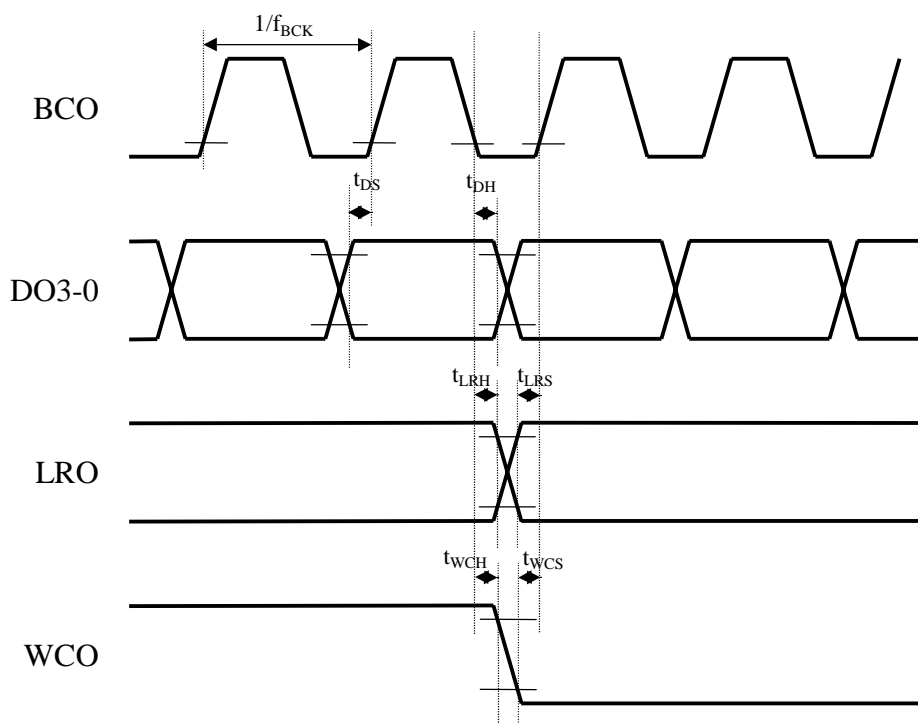

Fig.4
2. Serial audio interface (Refer to Fig. 4.)